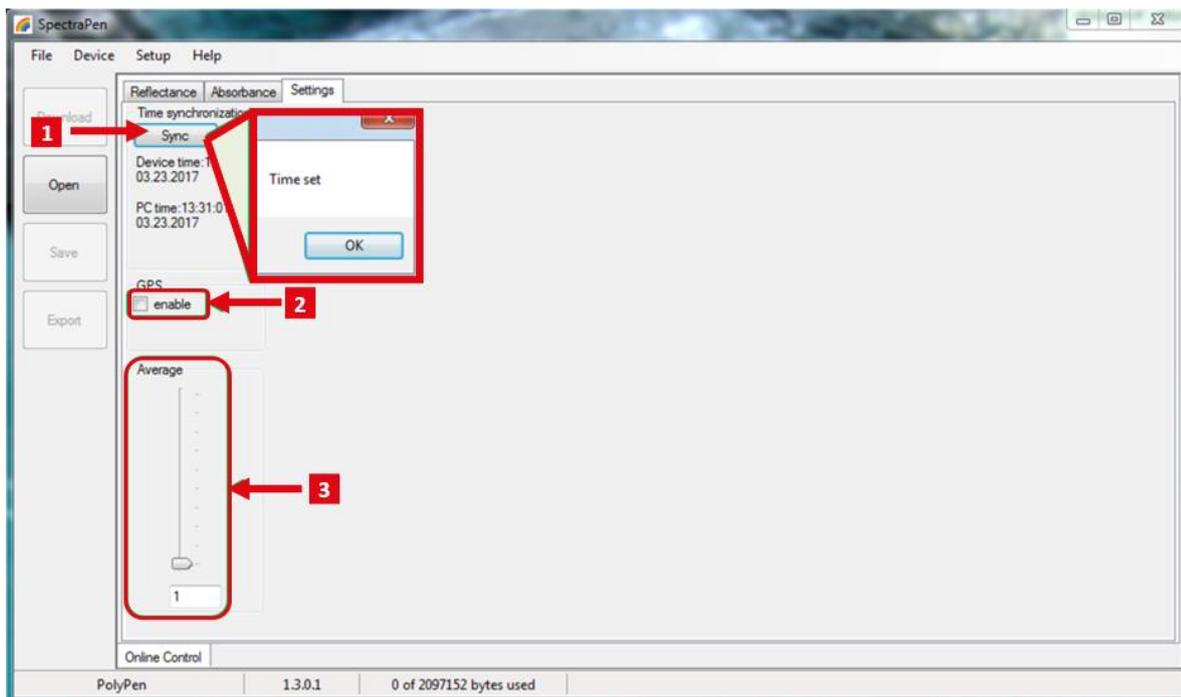

Fig. 37 Settings of online control.
### Settings (Fig. 37)
- Time synchronization of the device and PC (Fig. 37 - 1)
- GPS built-in module activation (Fig. 37 – 2; more information about the GPS module in chapter 8)
- Averaging of measurement, set from 1 to 10 measurements (Fig. 37 - 3)